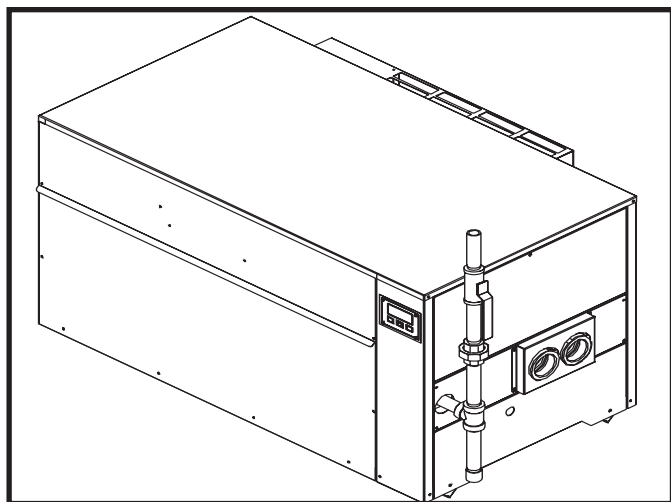

FIG. 33 Gas Line Connection to unit w/sediment trap and manual main gas shut-off valve
5. Install a sediment trap in the supply line to the pool heater's gas inlet (see Figure 33).